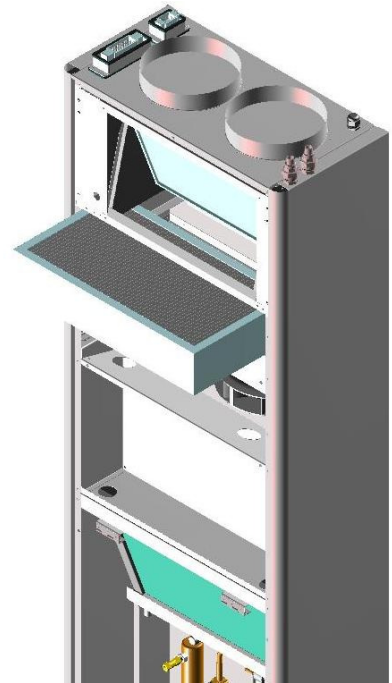

Fig. 7
6. **Air filters.** For remove the filter, open the upper panel and simply extract the filter as shown in fig. 7. The position and the overall dimensions are the same for G4 and F6 filters.